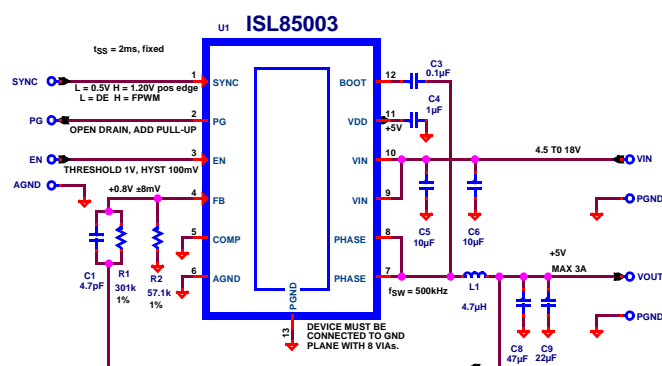

FIGURE 1. ISL85003  $V_{IN}$  RANGE FROM 4.5V TO 18V,  $V_{OUT}$  = 5V AND INTERNAL COMPENSATION WITH EXTERNAL FREQUENCY SYNC.
**TABLE 1. COMPONENTS SELECTION (REFER TO FIGURES 1 AND 2)**